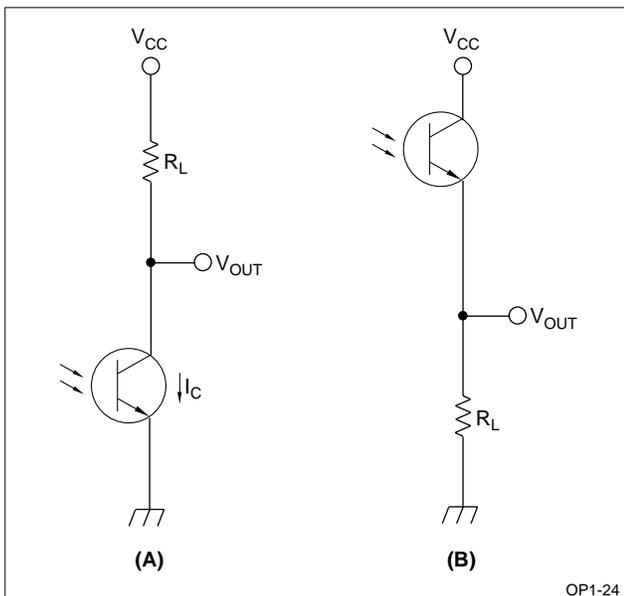

Figure 9. Fundamental Phototransistor Circuit (I)
Figures 9 and 10 show the fundamental phototransistor circuits. The circuit shown in Figure 9 (A) is a common-emitter amplifier. Light input at the base causes the output ( $V_{OUT}$ ) to decrease from high to low. The circuit shown in Figure 9 (B) is a common-collector amplifier with an output ( $V_{OUT}$ ) increasing from low to high in response to light input. For the circuits in Figure 9 to operate in the switching mode, the load resistor ( $R_L$ ) should be set in relation with the collector current ( $I_C$ ) as  $V_{CC} < R_L \times I_C$ .